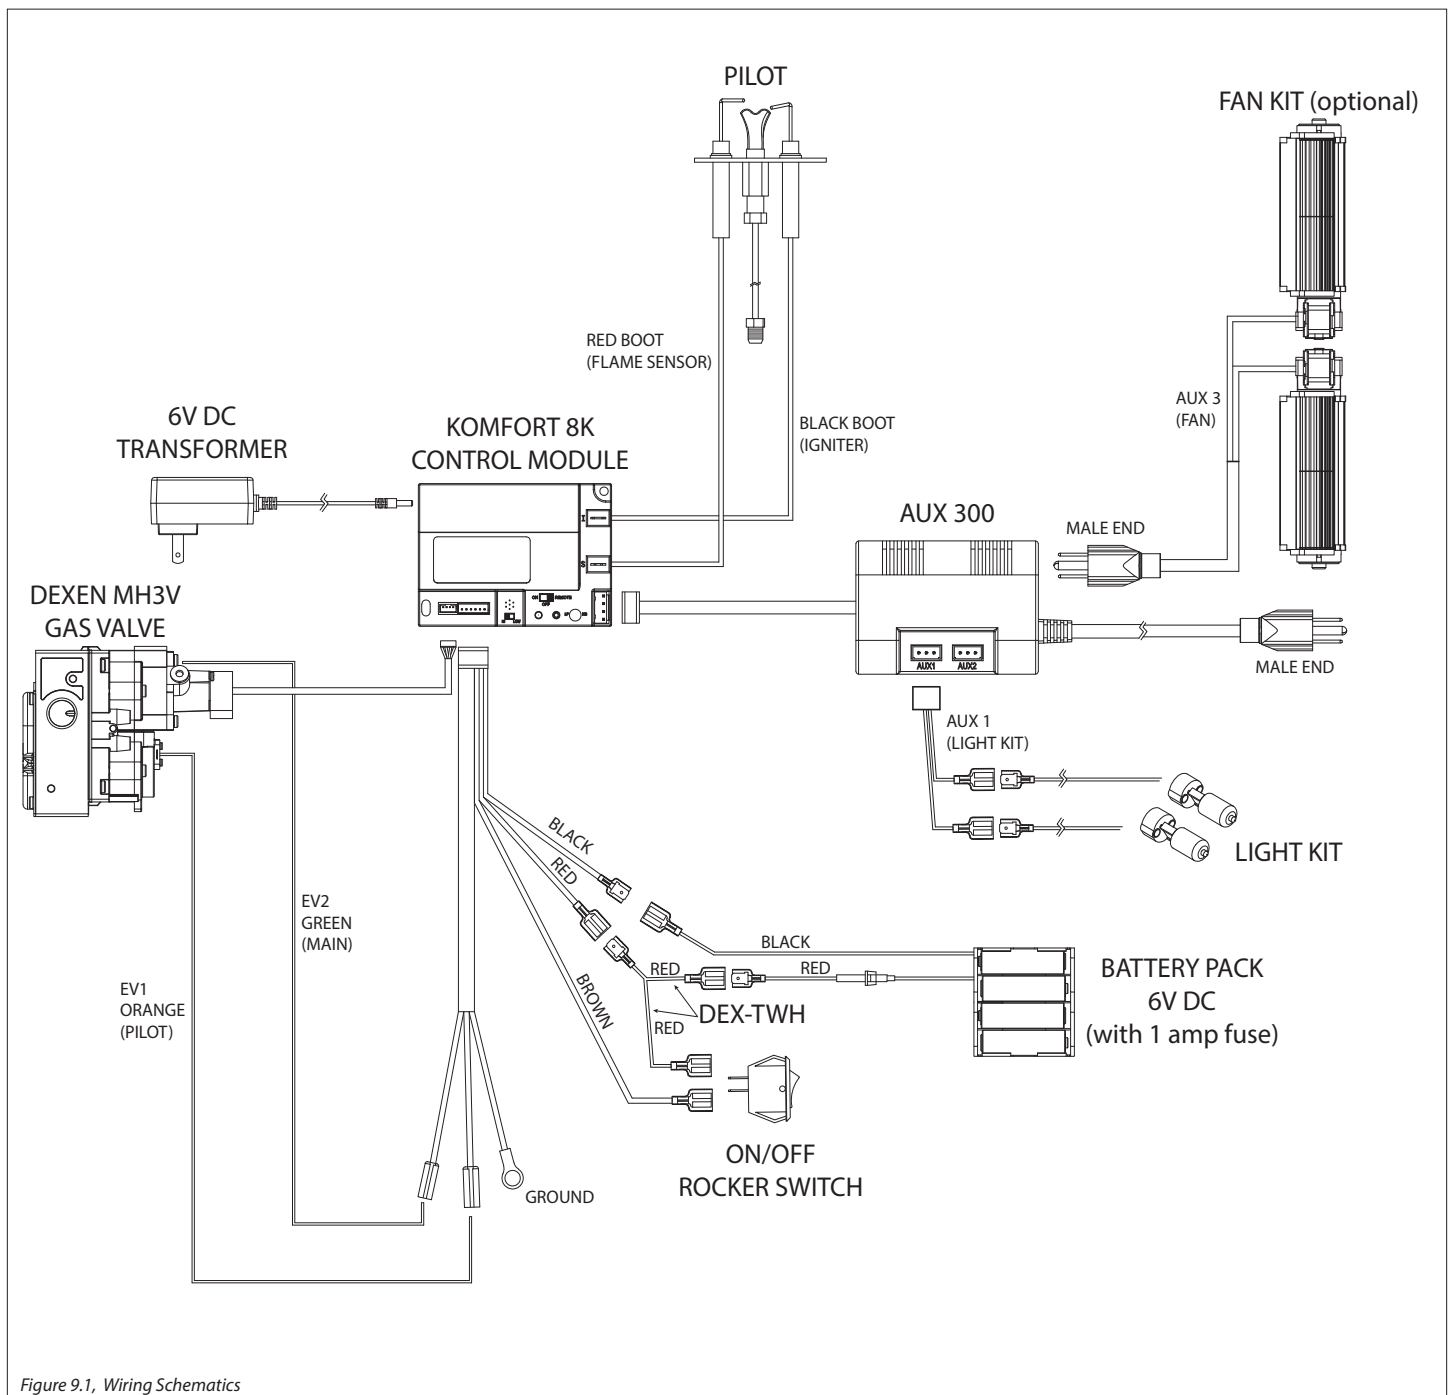

Figure 9.1, Wiring Schematics
The wiring diagram for this appliance is shown in **FIGURE 9.1** below.
9. Plug the fan cord into the AUX3 receptacle on the AUX 300 control module. See FIGURE 9.1 on page 34
3. Install (3) AAA batteries (included in the components packet) in the remote control battery bay.
5. Connect the fan to the AUX 300 control module **FIGURE 9.1** (page 34).